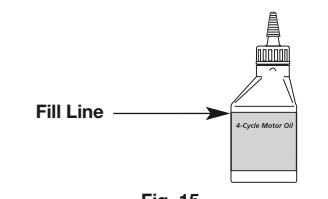

Fig. 15
**NOTE:** Use the empty oil bottle saved from the initial use to measure the correct amount of oil. Fill the bottle to the top of the label to approximate 3.04 fl.oz. (90 ml) of oil (Fig. 15).